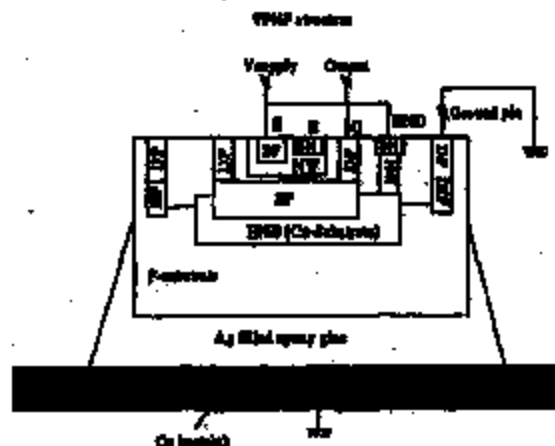

Fig. 3: Schematic view of a cross section of the complementary bipolar IC showing the V-PNP transistor as well as the Cu-heatink and Ag-filled epoxy glue.
In this paper we will show that this packaging method gives rise to a new latchup failure mechanism where latchup is not induced by triggering one of the known thyristors at the top side of the die but by triggering of an unexpectedly present parasitic thyristor located between the frontside and the (n-type) Ag-filled glue contacting the backside of the die, see fig. 3. The phenomenon will be described in more detail in the paper and options for its elimination will be presented. Consequences for qualification testing will be discussed.
The power ICs in our study are fabricated in a 2  $\mu\text{m}$  double metal complementary bipolar process featuring both V-NPN and V-PNP power transistors. The transistors are built in a 10  $\mu\text{m}$  thick, 2  $\Omega\text{cm}$  n-type epi layer on top of a 375  $\mu\text{m}$  thick 4  $\Omega\text{cm}$  p-substrate. Isolation between different n-epi islands is achieved by deep-P/buried-P (DP/BP) junction isolation. The base of the V-PNP transistor is formed by a  $N_{\text{base}}$  (NW) diffusion in the n-epi layer and the transistor isolated from the p-substrate by a deep buried-N (BND) diffusion, see fig. 3. The bipolar gains  $h_{FE}$  of the active V-PNP transistor T1 formed by the SP-(NW/n-epi)-BP diffusions, the parasitic V-PNP transistor T3 formed by the BP-BND-p-substrate and the parasitic V-NPN transistor T2 formed by the (NW/n-epi)-BP-BND diffusions, see fig. 4, typically equal 60, 120 and 11 respectively at 25°C. At the end of the process all n-doped diffusion layers are
The ICs are subsequently packaged in a SIL-power package. Here the p' substrate backside is attached to a Cu-heatink by an epoxy glue containing Ag-fillers to achieve low thermal resistance values, see fig. 3 and 5.
baised and electrons are injected into the substrate and collected by the BND-layer, see fig. 3 and 4. This causes a voltage drop across  $R_{BND}$  which forces parasitic PNP transistor T3 to switch on. A current now flows from the emitter of the V-PNP power transistor T1 to the substrate via T3, causing a voltage drop across  $R_{sub}$ . When this voltage exceeds the forward voltage of the backside diode, the parasitic NPN transistor T4 may remain conducting even when the V-PNP saturation event is over. Parasitic NPN transistor T2 then starts to operate in reverse and as a result the collector current of T4 will start to drive transistor T1 and a thyristor is being build-up.